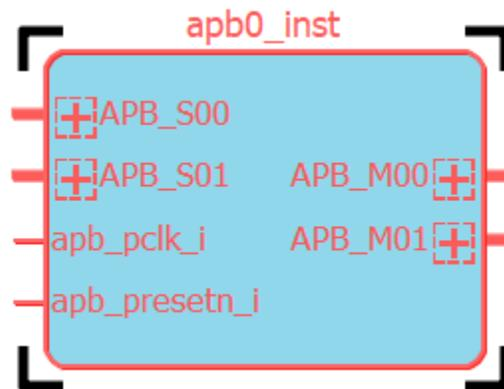

Figure 2.38. Select Module
1. Select the desired module block. The block is highlighted in red with black corners (Figure 2.38).